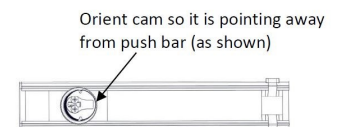
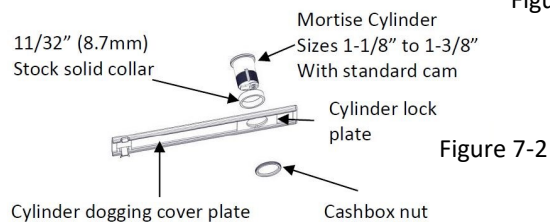
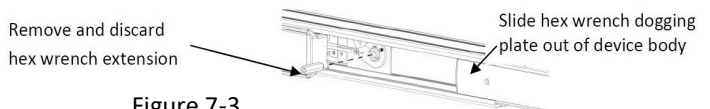
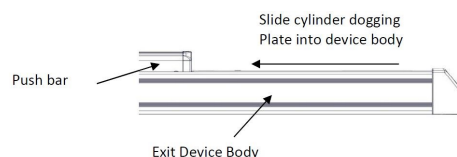

Figure 7-4
Figure 7-2
Figure 7-3
Figure 7-5
Required hardware for cylinder dogging includes one (1) mortise cylinder, lengths 1-1/8", 1-1/4" or 1-3/8" with a standard cam (0.723" [18mm] screw center to tip of cam): and one (1) Hager Cylinder Dogging kit (4926) which includes one (1) 11/32" [8.7mm] solid cylinder collar and cashbox nut. (See Figure 7-2) Remove and discard the hex wrench extension. (See Figure 7-3) The cylinder should be oriented so the cam is pointing away from the exit device push bar. (See Figure 7-4) Install the dogging cover plate with the cylinder and test the dogging. (See Figure 7-5) Depress the push bar, insert the key and turn the key clockwise to dog the device. Turn the key counter-clockwise to release the dogging.